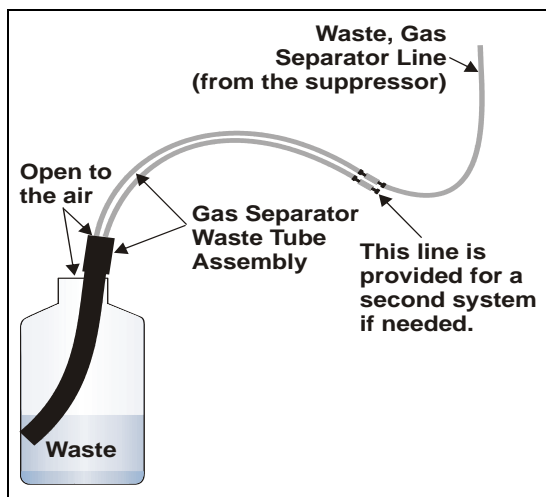

Figure 22. Gas Separator Waste Tube Installation
2. Connect the **WASTE, GAS SEPARATOR** line from the suppressor to one of the 3-mm (1/8-in) ID white Teflon lines on the gas separator waste tube assembly (see Figure 22).
DO NOT CAP THE WASTE CONTAINER: The ICS-1500, Atlas Electrolytic Suppressor, and Self-Regenerating Suppressor (SRS) use an electrolytic process that results in the production of small amounts of oxygen or hydrogen gas. To ensure that the gas is not trapped in a closed container and allowed to concentrate, install a 1.3-cm (0.52-in) ID black gas separator waste tube (P/N 045460) in an uncapped waste container. Connect the Waste, Gas Separator line to the waste tube (see Figure 22).